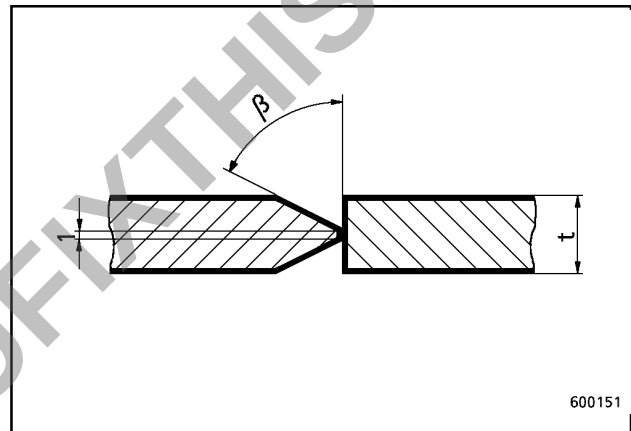

Fig. 42
- Double-bevel butt weld (fig. 42)